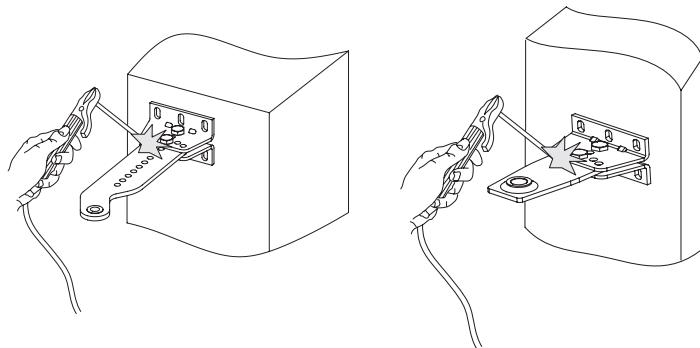

Figure 10. Welding front and rear fittings
- check the drive installation and weld the parts of the front and rear fittings (fig. 10), making sure to protect the drive from the welding effects. Protect the welded spots from corrosion by applying a protective coating.